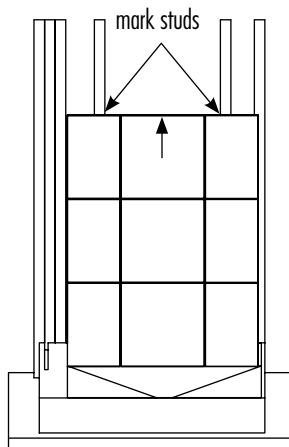

figure 10
2. Mark the wall studs across the top of the bottom wall panel (fig. 10).